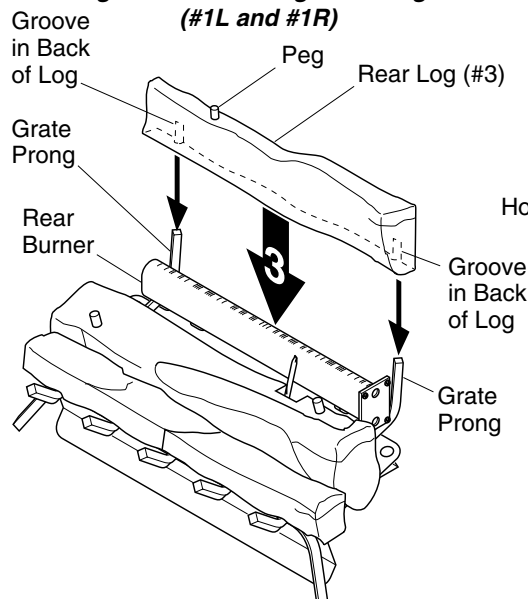

Figure 24 - Installing Rear Log (#3)
3. Slide the grooves in the back of the rear log (#3) against the rear grate prongs. Make sure the peg on the log is on top (see Figure 24).